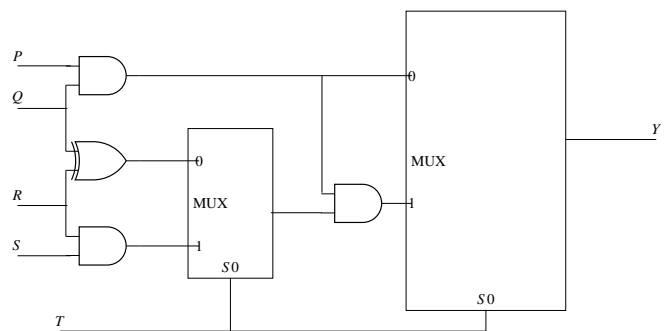

Fig. 4.11
24. The propagation delays of the XOR gate, AND gate and multiplexer (MUX) in the circuit shown in the Fig. 4.11 are 4 ns, 2 ns and 1 ns, respectively. If all the inputs P, Q, R, S and T are applied simultaneously and held constant, the maximum propagation delay of the circuit is (Gate EC-2021)